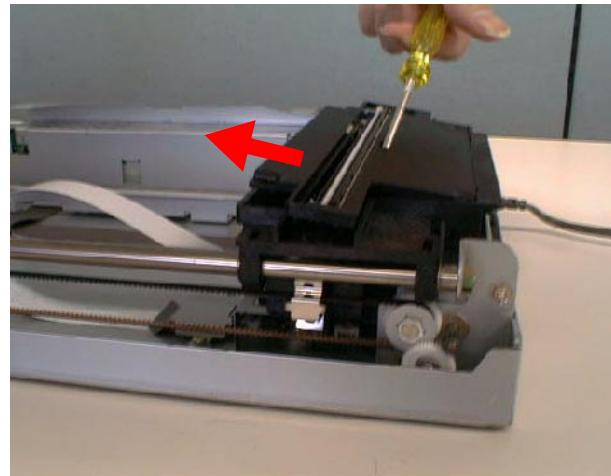

Figure 4-9. Carriage Unit Disassembly (2)
5. Using a standard screw driver, lift up the carriage cover in the Carriage Unit, and then move it to the front to remove it. (See Figure 4-9.)